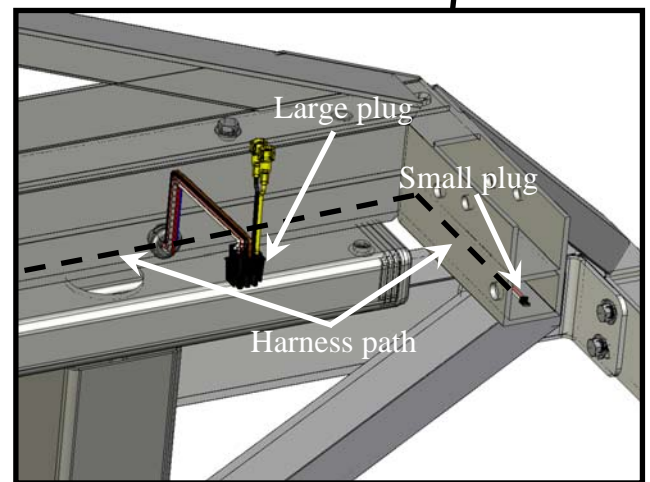

Figure 8
- b) Insert the end *without* the large plug into the hole on the end truss. See Figure 8.